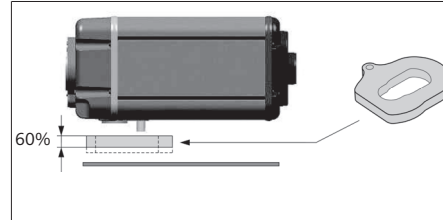

Fig. 13 Compressing the seal
- The seal must be evenly compressed to 60 %. See Fig. 13. It is advisable to use vibration dampers with a height of 1.2 in (30 mm) for this purpose.